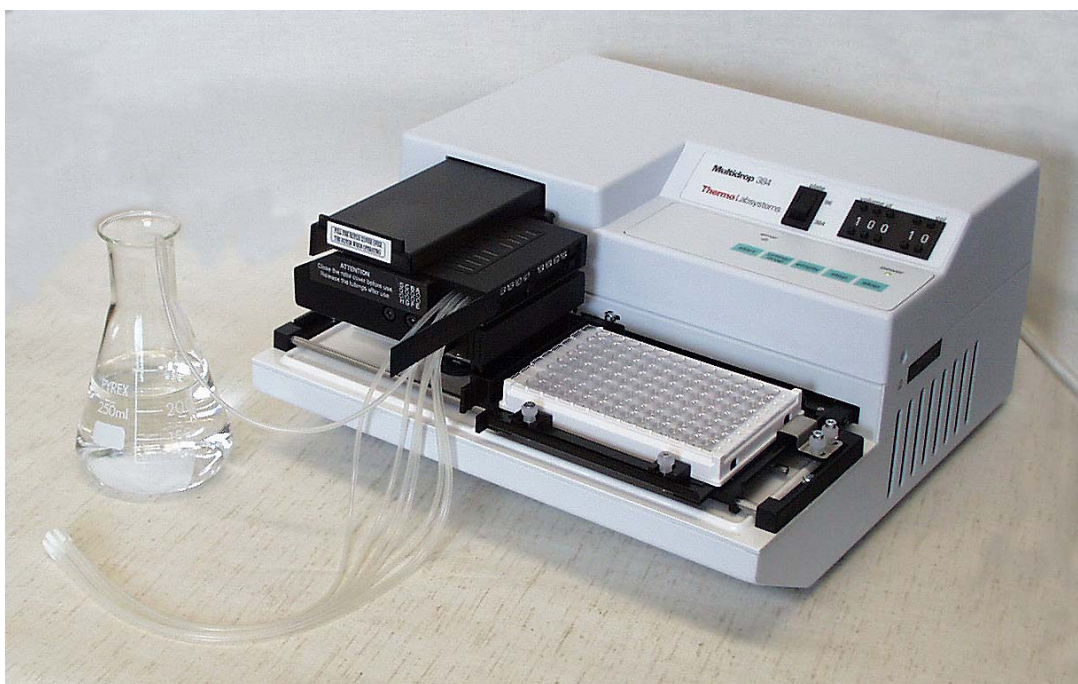

Fig. 7.8 8 x 12 well microstrips adjusted onto the plate adapter
6. Use 8 x 12 well microstrips and adjust the Multidrop 384 for 100 μ l in 10 columns and set the plate switch (**plate**) for 96-well plates (*Fig. 7.8*).